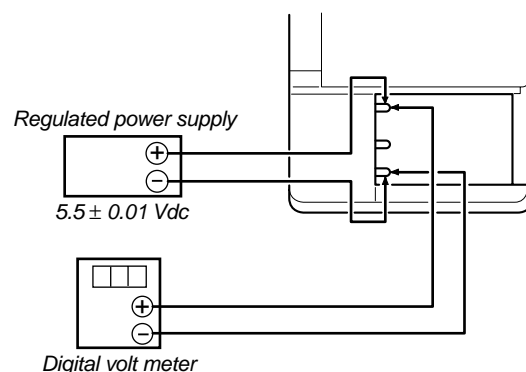

Fig. 5-3-5.
- 1) Connect the regulated power supply and the digital voltmeter to the battery terminal as shown in Fig. 5-3-5.